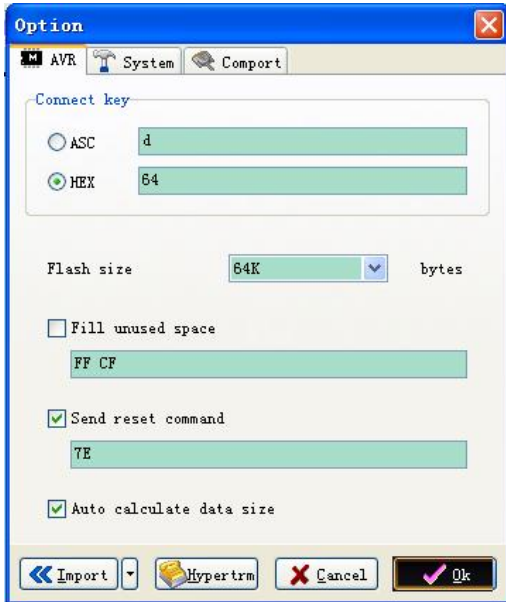

Fig. 1
- 3) Click at "Options" on the main menu. Change settings on the tab "AVR" as per Fig. 1. The Connect key has to be set to "HEX 64". Flash size should be 64K.